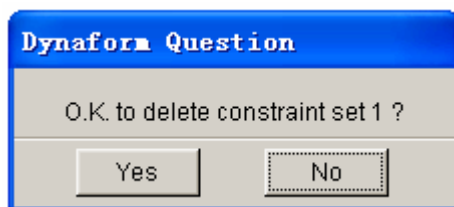

Figure 5.6.8 DYNAFORM Question dialog box
- Select Yes to remove the constraint set from the eta/DYNAFORM QUESTION dialog box as illustrated in Figure 5.6.8.